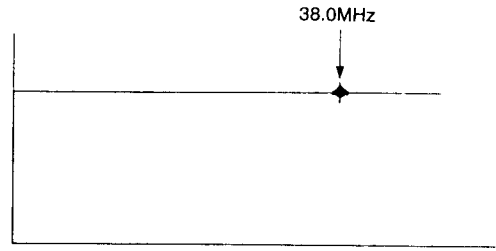

Fig. 2
- Adjust T702 so that the level of picture carrier (38.0MHz) marker point may be the oscillation position as shown Fig 2.